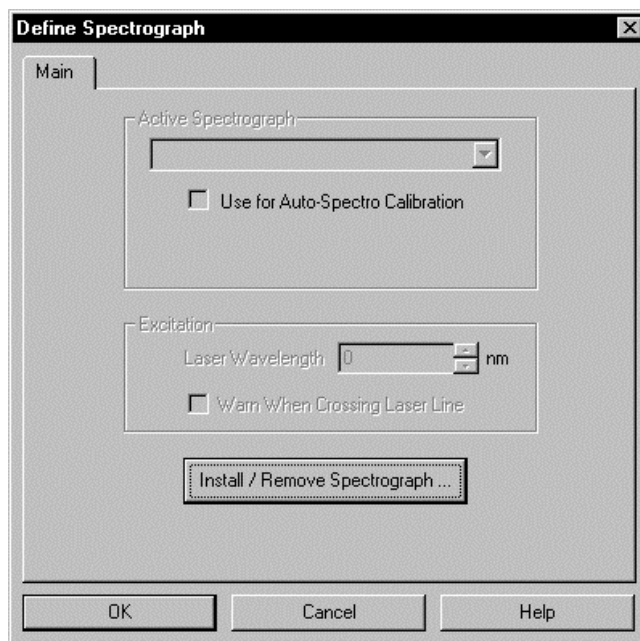

Figure 22. Define Spectrograph dialog box
4. Select **Define** on the Spectrograph menu (Figure 21). This will open the Define Spectrograph dialog box (Figure 22).